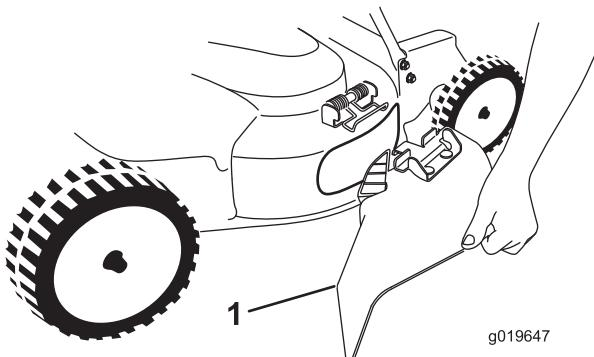

Figure 25
5. Install the side-discharge chute (Figure 25) by pulling up on the spring, placing the chute over the opening, and lowering the spring over the tabs on top of the discharge chute.